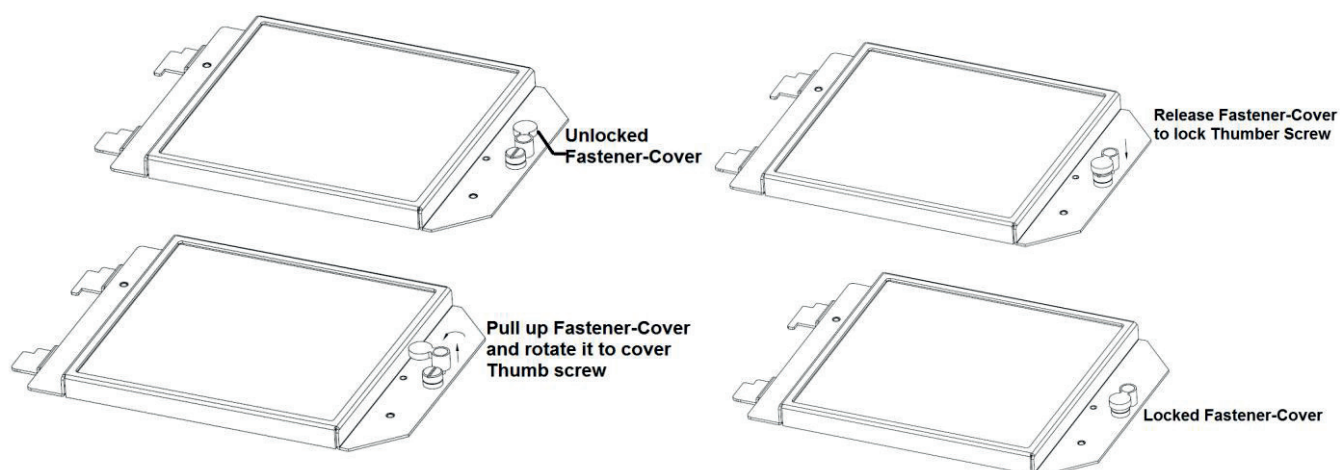

Figure 1
3. Hold the filter pack, pull up the fastener-cover and rotate it to cover the thumb screw, then release it to lock the screw. Refer to following figure 1.